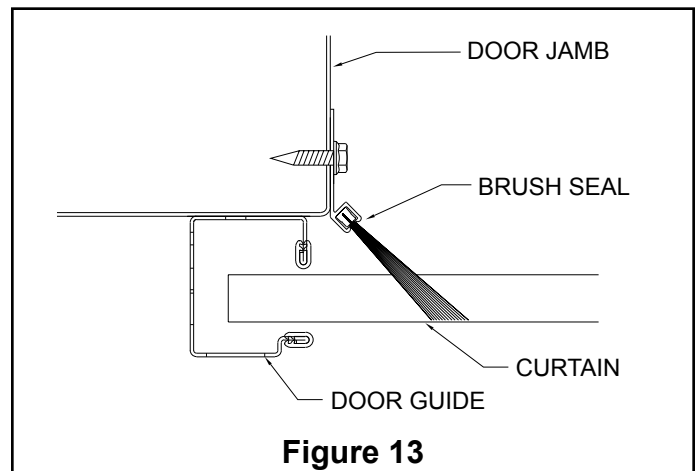

Figure 13
10.2 Close the door before installing the brush seal. Position brush seal so it just touches the flat portion of the inside of the curtain (See Figure 13). Fasten brush seal to jamb every 12" with appropriate fasteners.